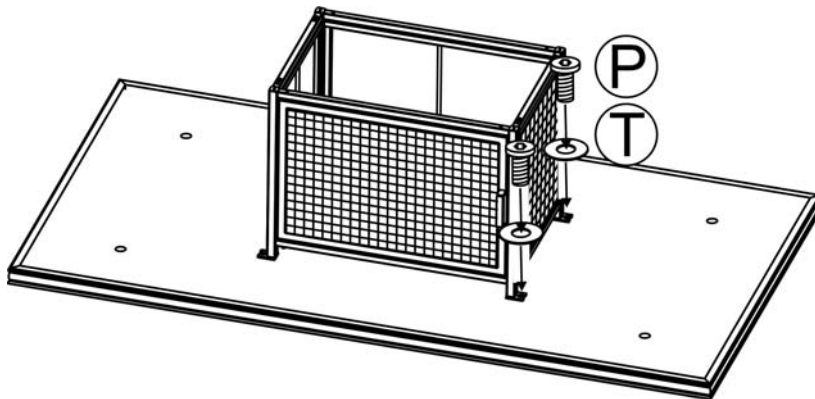

Figure 3
3. Place the firepit tabletop upside down on a flat, non-abrasive surface. Attach the firepit base to the table top by using four 1/4"x20 mm bolts and Ø20xØ6.5x2.0mm washers as shown in Figure 3. Guide the bolts through the holes in the complete base into the pre-drilled holes in the table top. Hand tighten only 2-3 turns.